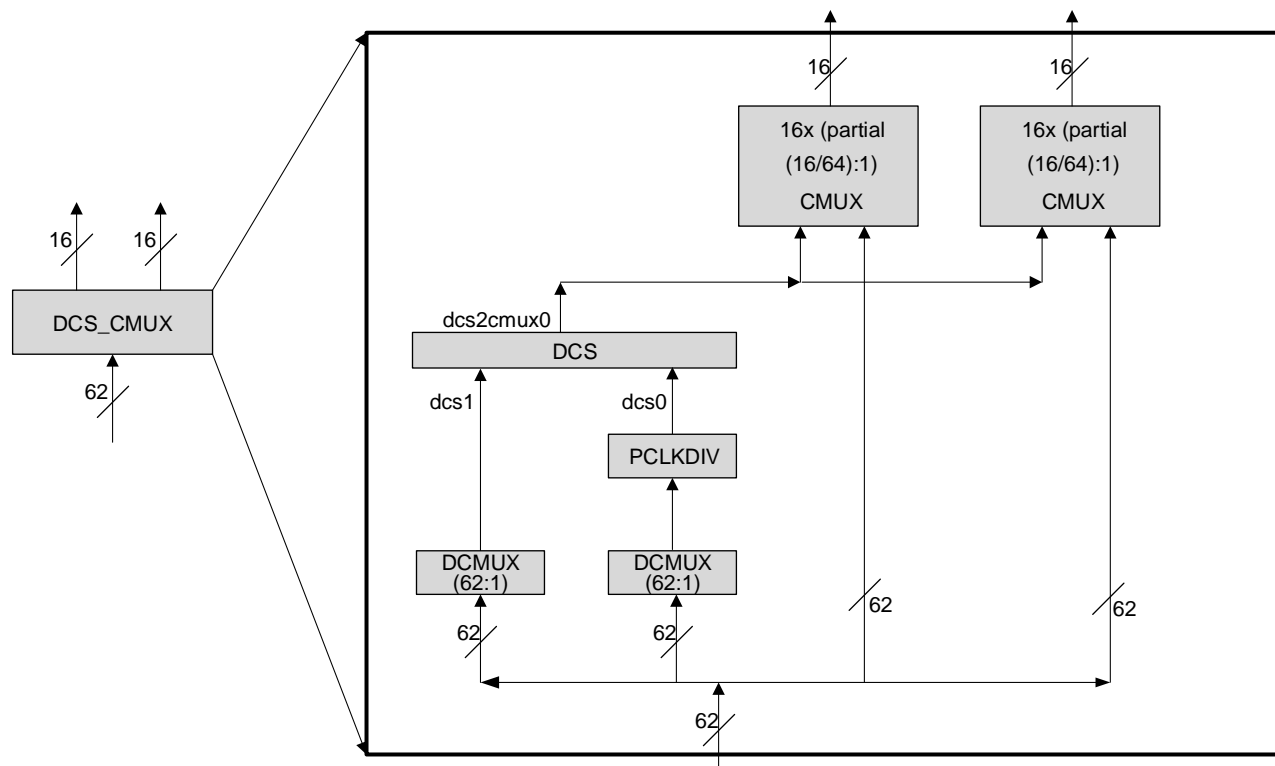

Figure 2.9. DCS_CMUX Diagram
The PCLKDIV supports $\div 2$, $\div 4$, $\div 8$, $\div 16$, $\div 32$, $\div 64$, $\div 128$, and $\div 1$ (bypass) operation. The PCLKDIV is fed from a DCSCMUX within the DCS_CMUX block. The clock divider output drives one input of the DCS Dynamic Clock Select within the DCS_CMUX block. The Reset (RST) control signal is asynchronous and forces all outputs to low. The divider output starts at next cycle after the reset is synchronously released. The PCLKDIV is shown in context in Figure 2.9.
All clock sources are selected and combined for primary clock routing through the Dynamic Clock Selector Center Multiplexer logic (DCS_CMUX). There are one (1) or two (2) DCS_CMUX blocks per device. Each DCS_CMUX block contains two DCSMUX blocks, one PCLKDIV, one DCS block, and 1 or 2 CMUX blocks. See Figure 2.9 for a representative DCS_CMUX block diagram.